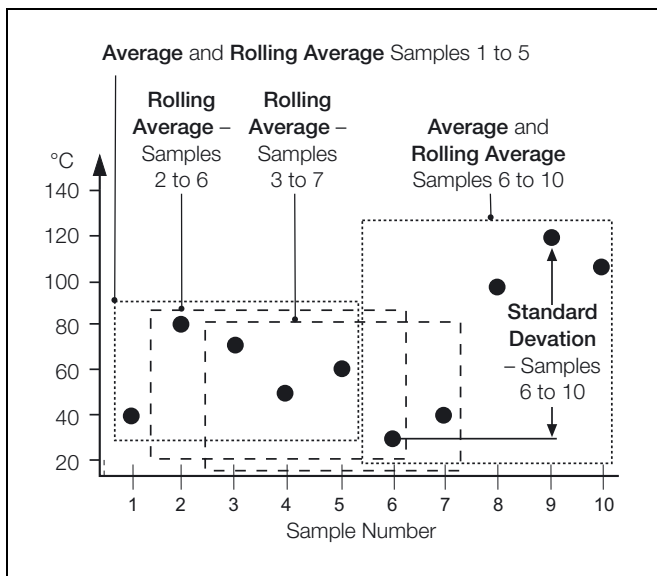

Fig. 2.5 Samples Included
2.9.2 Statistical Functions – Table 2.5 and Fig. 2.5